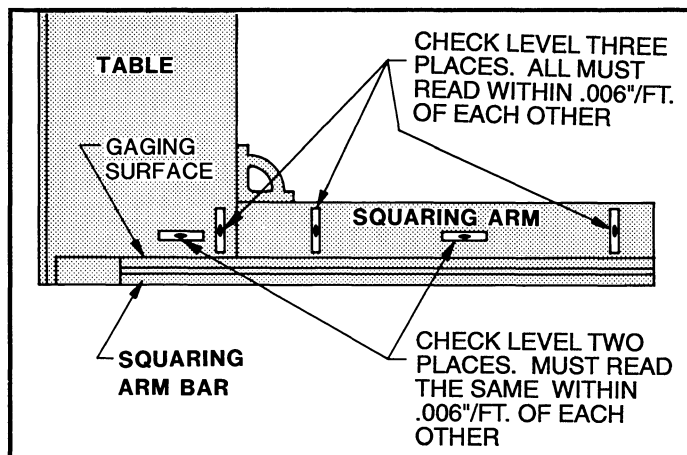

FIGURE 9-28 - Leveling squaring arm
1. Check the level of squaring arm left-to-right and front-to-back as shown in Figure 9-28. Adjust level as required.